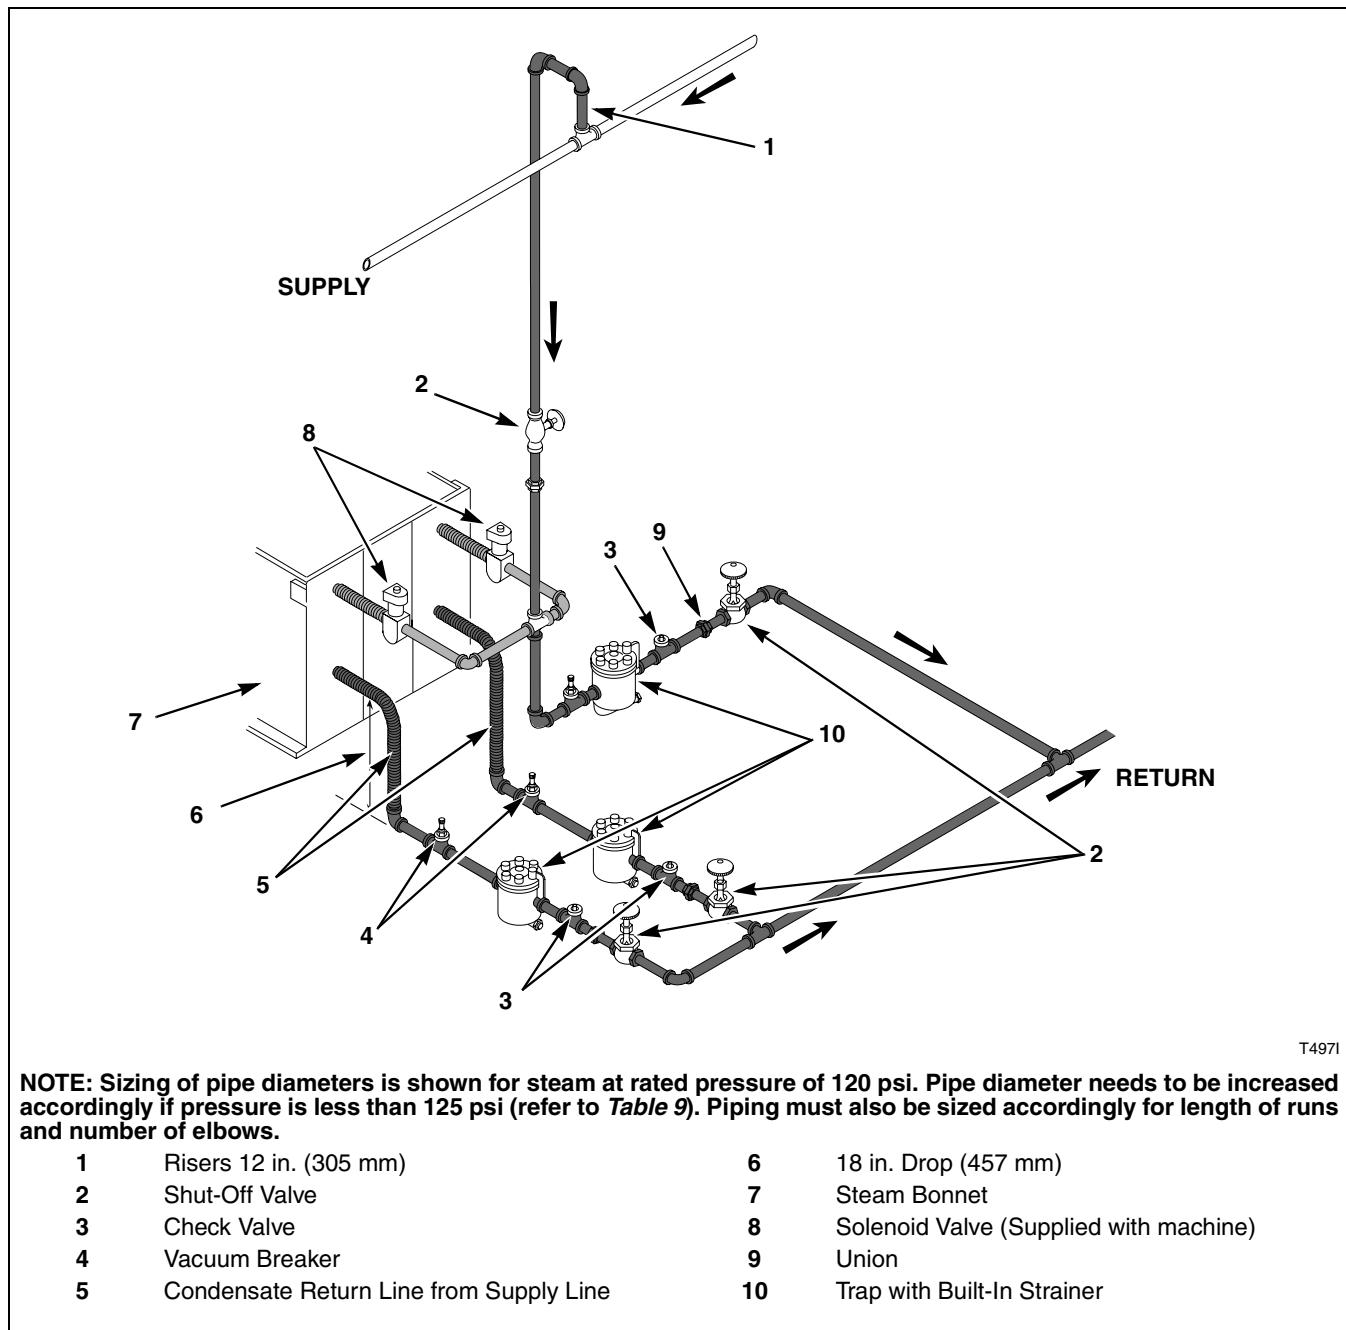

Figure 17
- Refer to *Figure 16* and *Figure 17* for proper steam pipe configurations.
The steam trap must be installed and the coil outlet connections must be connected to the condensate return lines. The following steps outline the procedure for installing the steam trap and connecting the condensate return lines. Refer to *Figure 16* and *Figure 17* for typical installations.